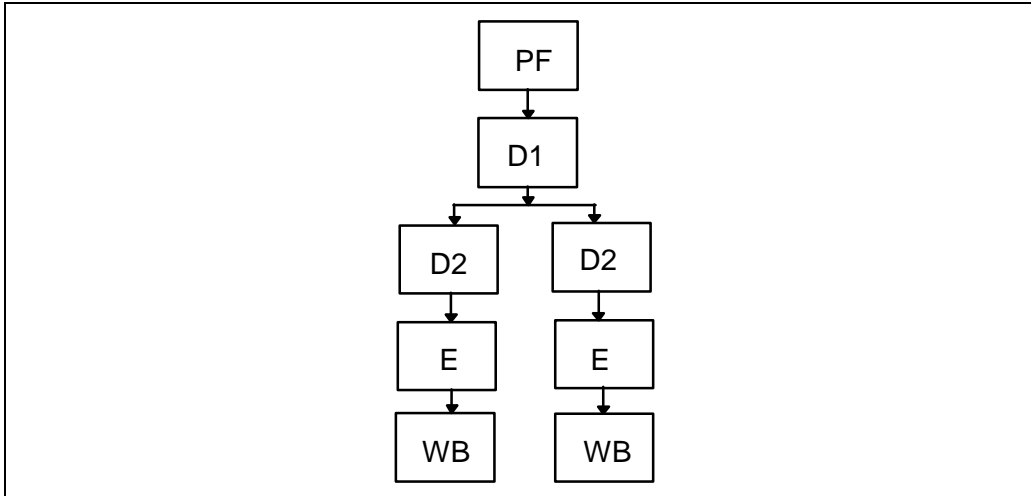

Figure 2-1. Pentium® Processor Integer Pipelines
The Pentium processor has two parallel integer pipelines as shown in Figure 2-1. The main pipe (U) has five stages: prefetch (PF), Decode stage 1(D1), Decode stage 2 (D2), Execute (E), and Writeback (WB). The secondary pipe (V) is similar to the main one but has some limitations on the instructions it can execute. The limitations will be described in more detail in later sections.